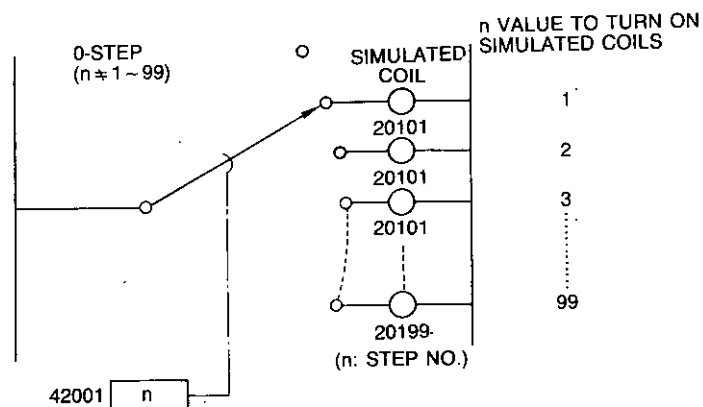

Fig. 5.93 Equivalent Circuit of Stepping Switch 1
- (1) The GL60H or GL70H is provided with 32 stepping switches. Each switch can take up to 99 steps independently. The stepping switch reference Nos. and their meanings are as shown below:
- (2) Each stepping switch from 1 to 32 is controlled according to the content of holding registers 42001 to 42032 (numerical values). By controlling these register contents (called stepping switch control registers) by using functions such as timer, counter, addition or subtraction, the stepping switches can be permitted to step in proper order, return or jump.
- (3) Fig. 5.93 shows the equivalent circuit of the stepping switch 1. As shown in the figure, stepping switch 1 operates according to the holding register 42001 content n , as shown below:
- ① When n is in the range of 1 to 99;